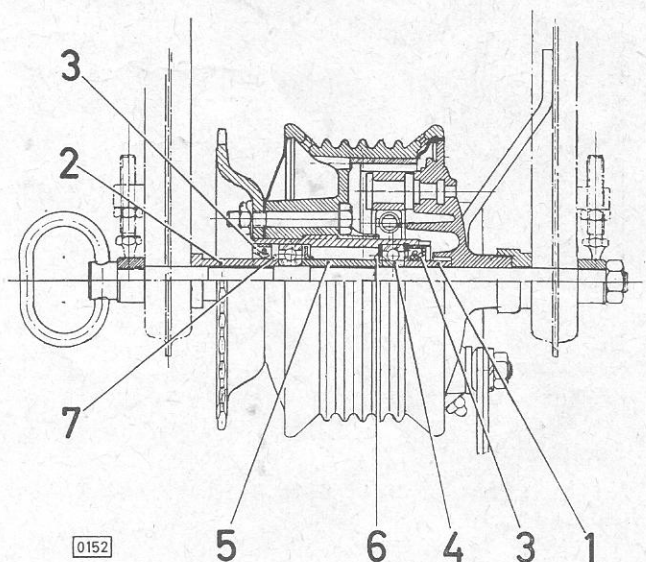

Fig. 25: Rear wheel full-width brake hub:
sleeve (fig. 25/1) and left-hand side spacer (fig. 25/2) with the two sealing rings (fig. 25/3). Then press out right bearing (fig. 25/4) by means of the special device (pos. 121.7029) and take off distance sleeve (fig. 25/5) with centering plate (fig. 25/6). Finally press out bearing in hub. Until eventual change of rear sprocket, disassembling of hub is unnecessary.
Reassembling in reverse order, by observing the following hints: The right bearing is pressed in together with the centering plate (fig. 25/6) (stamping inside!). The sealing rings, before being pressed in, must be pushed upon sleeves (fig. 25/1 and fig. 25/2). In the case of the left-hand side spacer (fig. 25/2), the circlip (fig. 25/7) must first be taken off before mounting the sealing ring. Every time when reassembling, mount new sealing rings, as the brake is otherwise not sufficiently protected against penetrating grease.